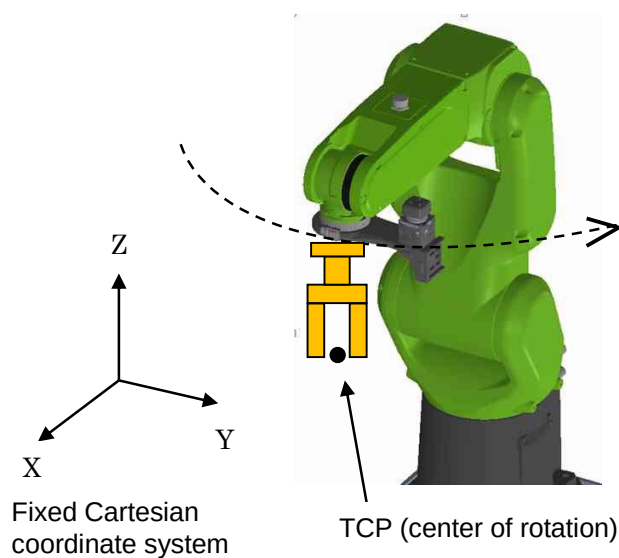

Fig. 2.7 Image of robot operation direction
- Even in translation mode, the robot does not move along the fixed Cartesian coordinate system. Rather, it moves in a gentle curve, as shown in fig. 2.7.